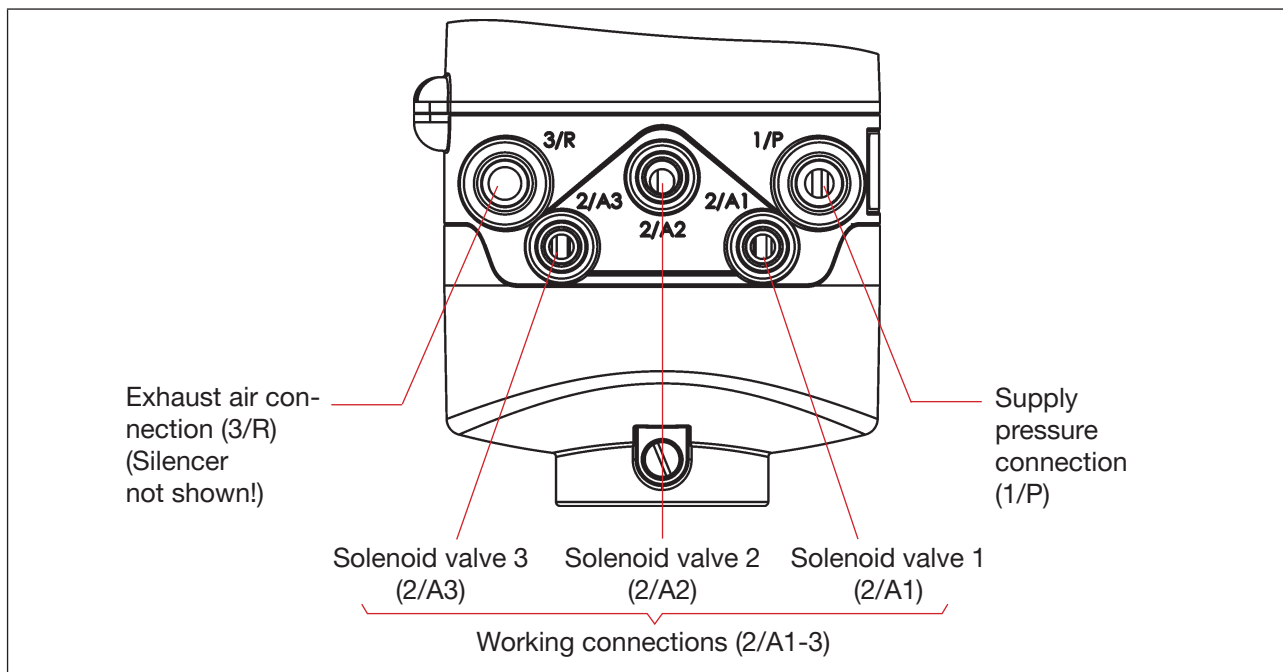

Fig. 12: Pneumatic connection
- Connect the required **working connections 2/A1 to 2/A3** (according to the number of solenoid valves in the control head) with the corresponding connections on the process valve (“Fig. 12”).